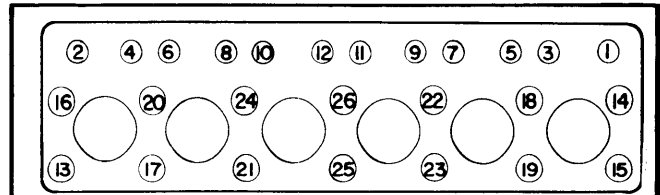

Fig. 1 Cylinder Head Bolt Loosening Sequence
2) Remove rocker arm cover. Remove rocker arm shaft bolts and lift rocker arm shaft assembly off head. Remove push rods and fuel return spill tube. Remove fuel injectors from cylinder head. Remove head bolts as shown in Fig. 1. Lift cylinder head from block with a hoist. Remove head gasket and "O" rings from water and oil passages.